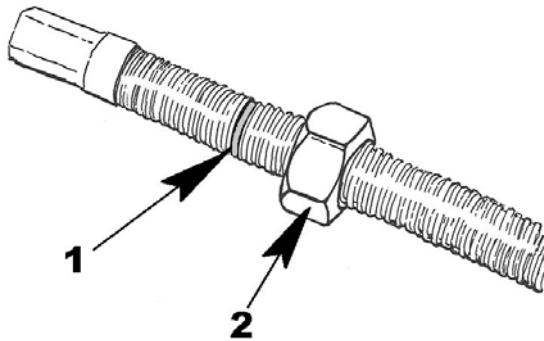
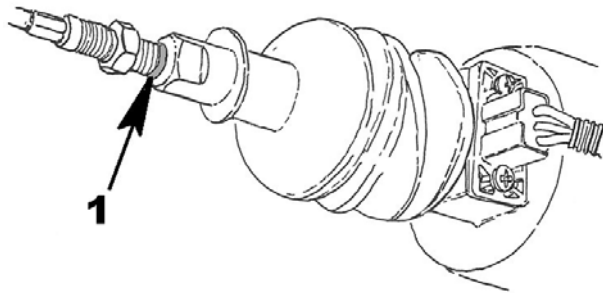

Figure 12 Threaded Adjustment Rod With Groove
Figure 13 Adjustment Rod With Groove
6. Thread the cable adjustment rod into the cylinder until the groove lines up with the cylinder (Figure 12 and Figure 13).